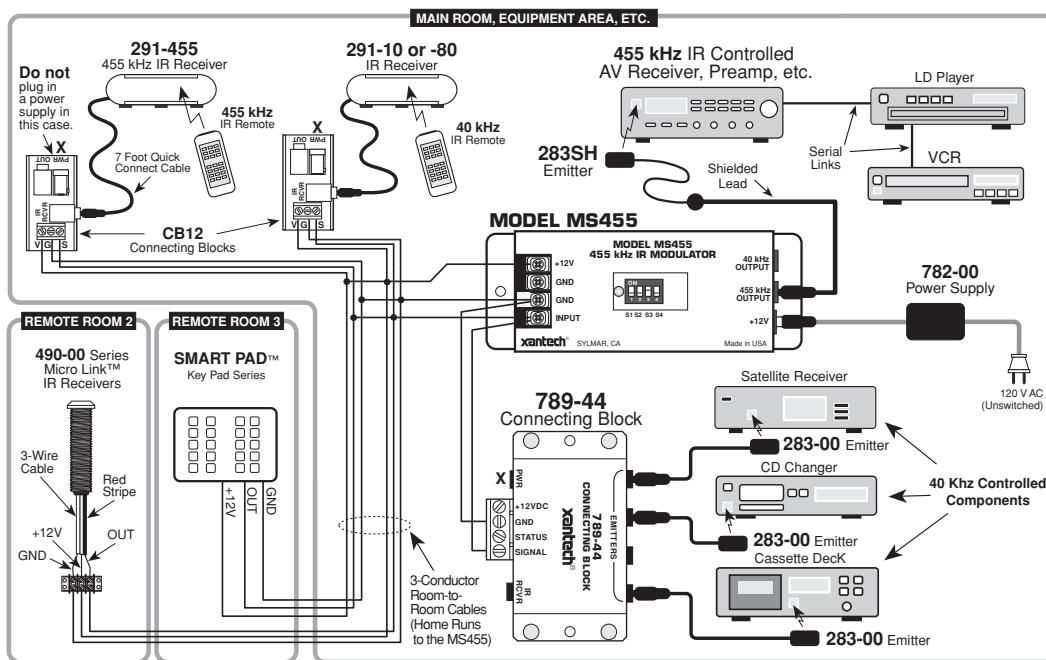

Fig. 3 Multi-Room Repeater System
- If you use lower frequency IR controlled components in the same system with the 291-455, you must use standard Xantech IR receivers, such as the 291-10 (side-by-side with the 291-455, if necessary), to repeat the lower frequency commands. Refer to Fig. 3.
A more advanced system is shown in Fig. 3. A 291-455 and a variety of other Xantech IR receivers and a key pad are connected to an MS455 and a 789-44 Connecting Block. It accomplishes the following:
3. The down converted commands, for example, could be programmed into the SMART PAD shown in Fig. 3, room 3. Also, a learning remote, such as the Xantech URC-1, could be programmed in like manner. In this way, standard Xantech Key Pads, IR Receivers (such as the 490-00 shown in room 2, Fig. 3) and Controllers can be used in the system, where desired.